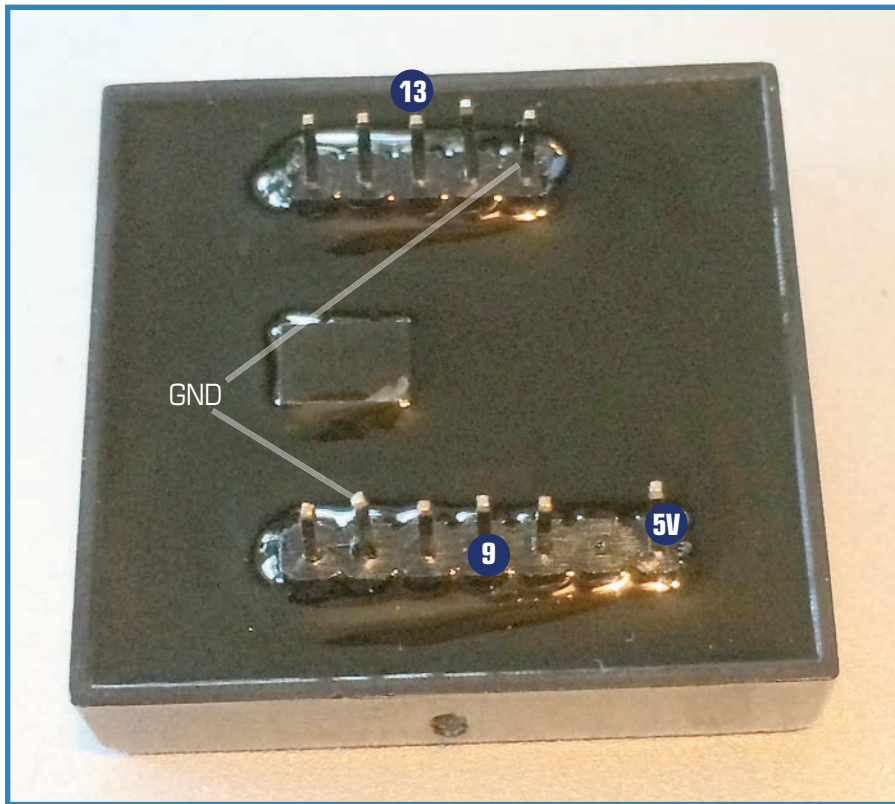

FIGURE 13.26 Wire up the RFID module as you see here.
17. Next, you'll need to wire up the RFID sensor. One optional tool that might help is an RFID breakout board, the one I mentioned in the parts list. This breaks out the sensors' 2mm-spaced pins into a breadboard-friendly 0.1". Either way, Figure 13.26 shows which pins get wires; later on in the build I'll show you where to attach the other ends of those wires.
- e. Connect the RFID's wires to their respective pins on the shield. Refer to Figure 13.26 to see how to wire up this component.